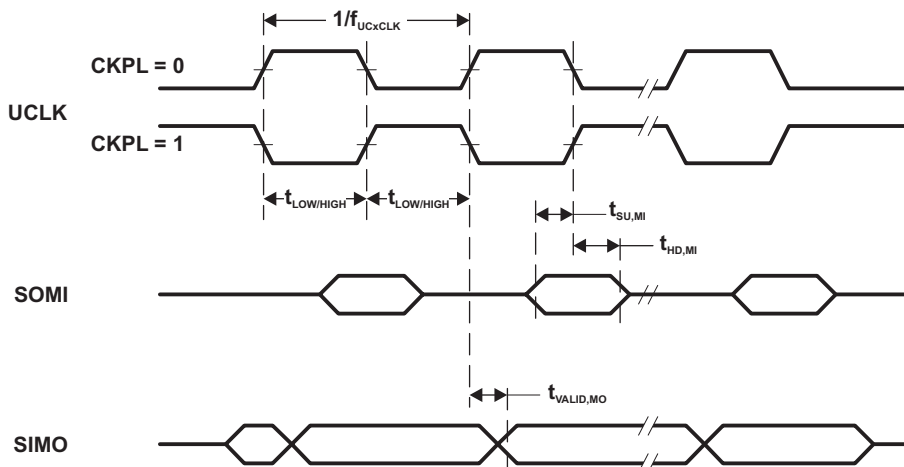
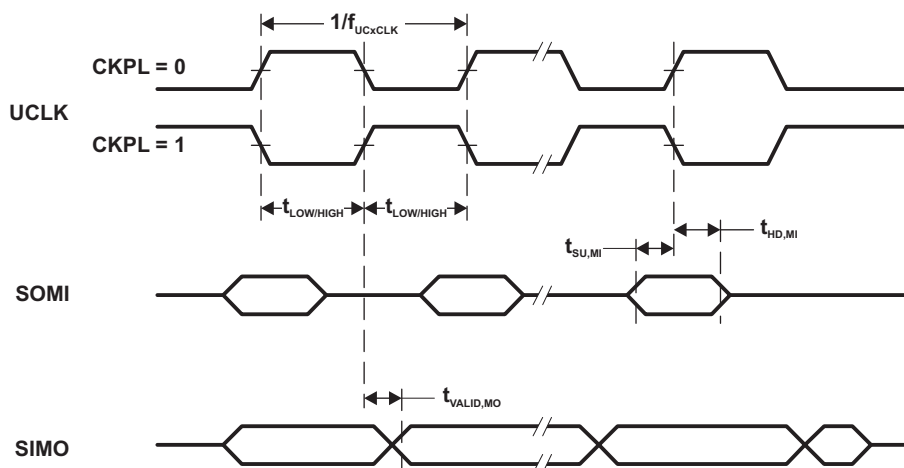

Figure 5-12. SPI Master Mode, CKPH = 0
Figure 5-13. SPI Master Mode, CKPH = 1
- (1) $f_{UCxCLK} = 1/2t_{LO/HI}$ with $t_{LO/HI} = \max(t_{VALID,MO}(eUSCI) + t_{SU,SI}(Slave), t_{SU,MI}(eUSCI) + t_{VALID,SO}(Slave))$. For the slave parameters $t_{SU,SI}(Slave)$ and $t_{VALID,SO}(Slave)$, see the SPI parameters of the attached slave.
- (2) Specifies the time to drive the next valid data to the SIMO output after the output changing UCLK clock edge. Refer to the timing diagrams in Figure 5-12 and Figure 5-13.
- (3) Specifies how long data on the SIMO output is valid after the output changing UCLK clock edge. Negative values indicate that the data on the SIMO output can become invalid before the output changing clock edge observed on UCLK. Refer to the timing diagrams in Figure 5-12 and Figure 5-13.